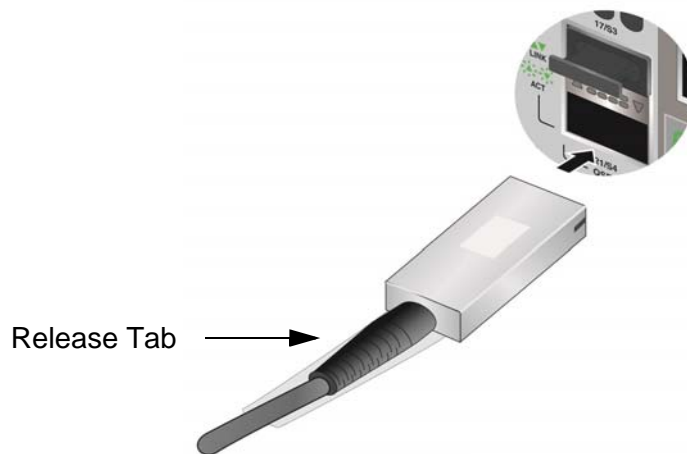

Figure 58. Installing the AT-QSFP+ Cable in Slot 21
4. Orient the transceiver with the release tab on the bottom and slid it into the QSFP+ slot until it clicks into place. Refer to Figure 58 on page 103.